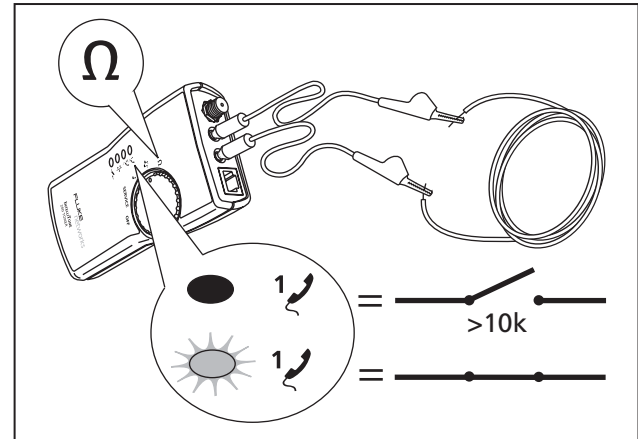

Figure 5. Continuity Test
3. Connect the toner to the circuit or component as shown in Figure 5.
5. The ¹ LED indicates an open or closed circuit as shown in Figure 5.